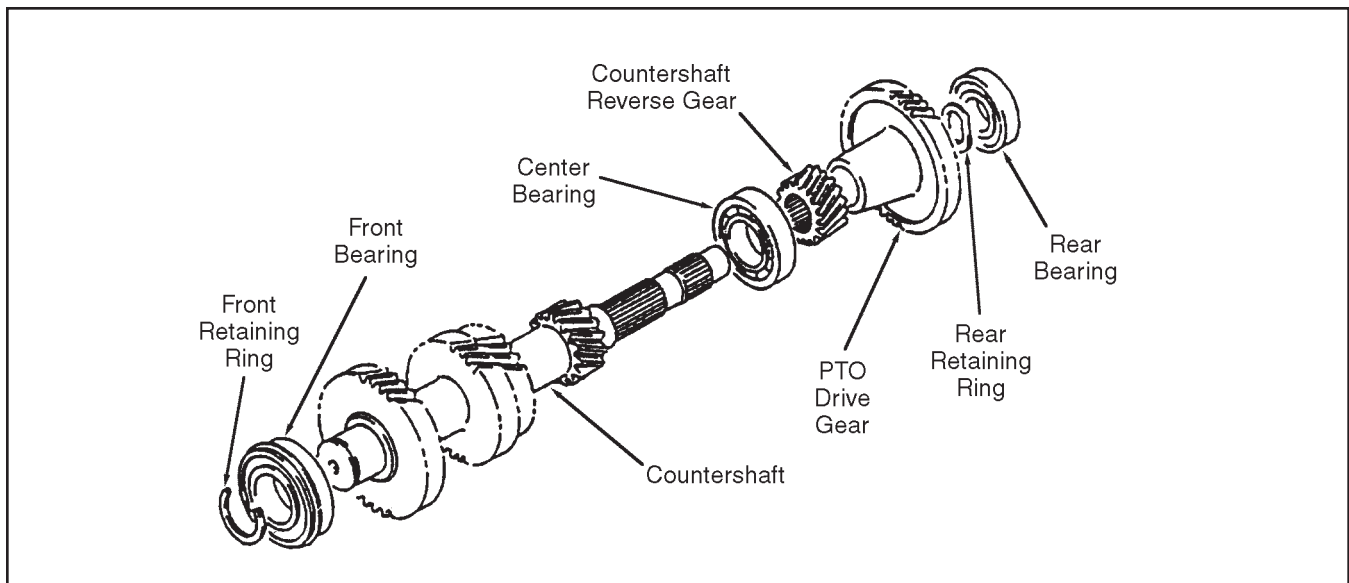

Figure 4H-33. Countershaft Reassembly
4. Install idle gear and washer onto reverse gear shaft and pin into it as shown in Figure 4H-34.